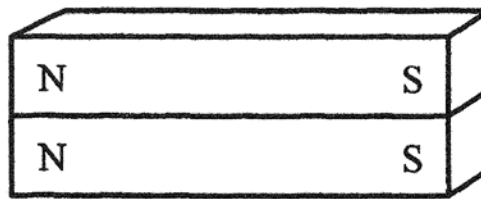

Figure 2
10. Hold the two bar magnets together with like poles adjacent to each other as shown in Figure 2. (This will double the strength of the magnetic field).